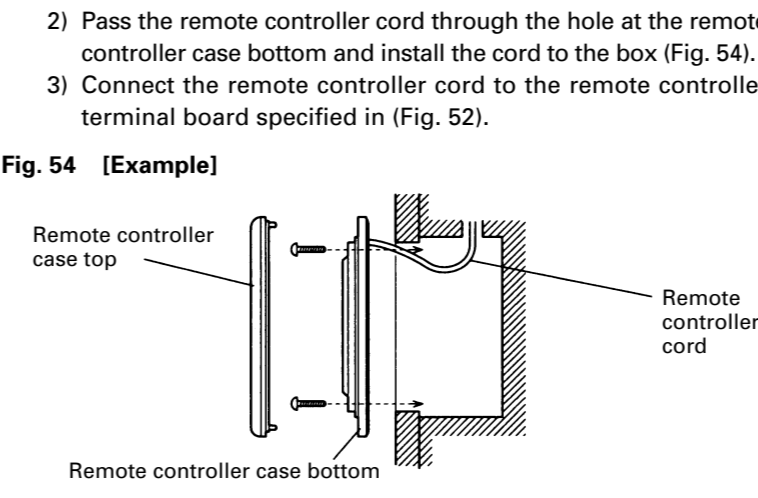

Fig. 54 [Example]
- Pass the remote controller cord through the hole at the remote controller case bottom and install the cord to the box (Fig. 54).